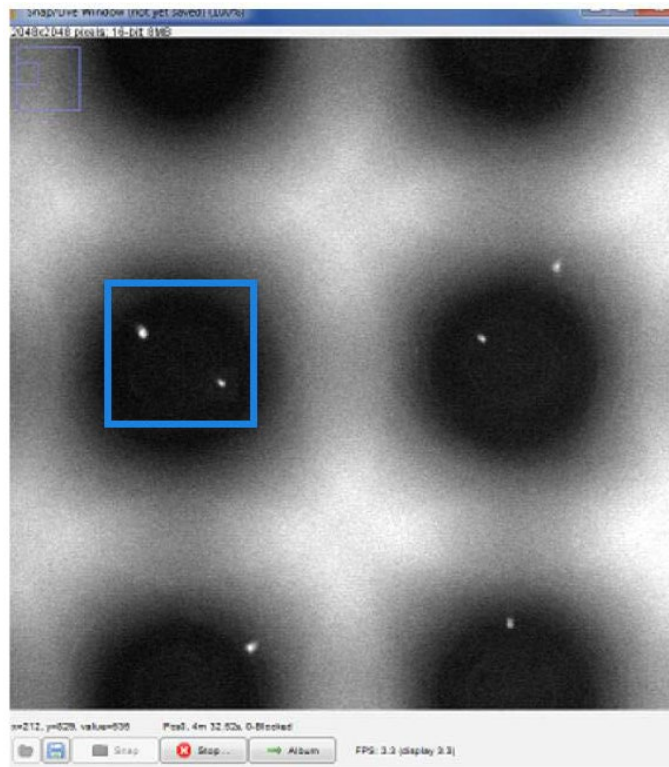

Figure 22. Adjusting the focus on single cells.
- d. Adjust the fine contrast knob back and forth to find the optimal focal point for a cell (smallest, sharpest view) or the optimal focal point between two cells on the Z-plane (blue box in Figure 22, below).